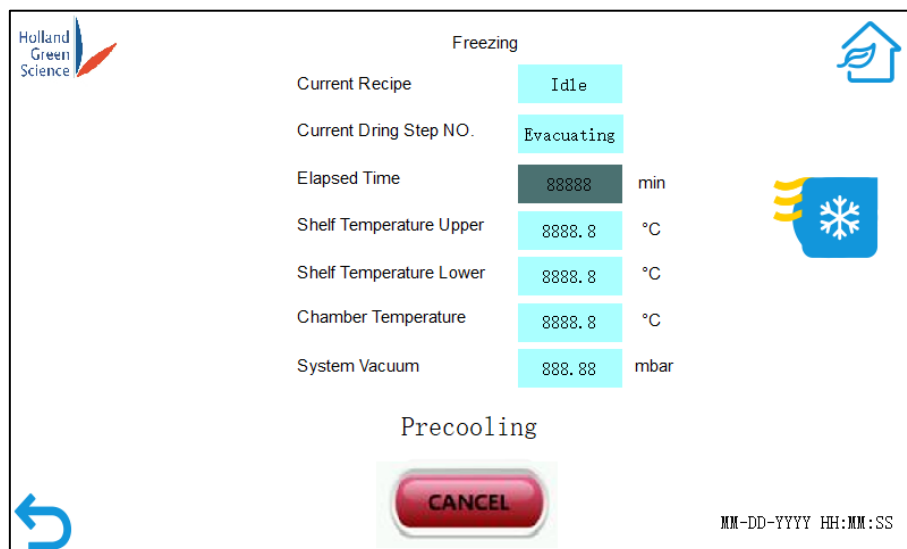

Figure 22
- Clicking on “CANCEL” will stop the process and go back to the home screen (Figure 22).